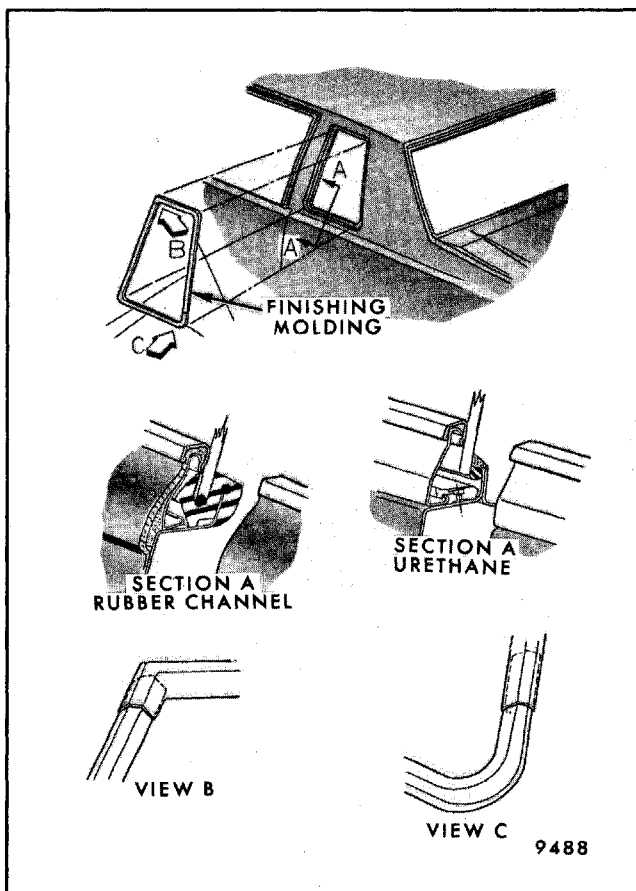

Fig. 11-14 - Outside Loaded Quarter Window - C Styles Typical
3. On outside loaded glass without vinyl roof cover, remove quarter window reveal moldings (Fig. 11-14).